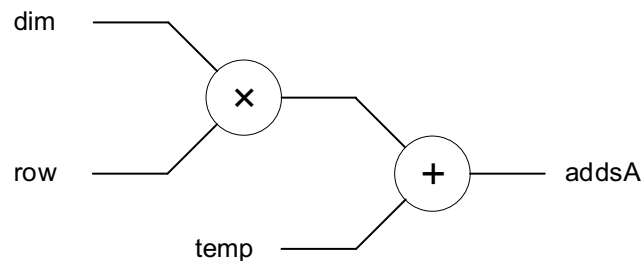

Figure 4 Address converting logic for $matA$
N.B. In hardware, multi-dimensional matrices are always stored as 1-D arrays in memory. We thus must generate the addresses to index the 2-D matrices using 1-D addresses during matrix multiplication (i.e., from $matA[row][tmp]$ to $matA[addr]$). One way to achieve this is to design an address generation logic as shown in Figure 4. Assume that $matA$ and $matB$ are both $dim \times dim$ in size with iterators “row”, “col”, and “temp” ranging in $[0, dim-1]$. The address generation logic for $matA$ is given below.